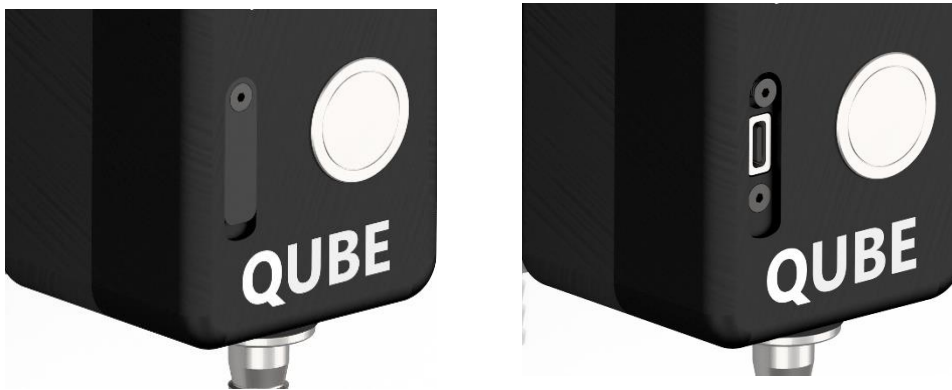

Figure 10: QUBE CTW module with USB-C inlet
- Plug in the USB plug end of the CTW CHARGING CABLE into the dedicated USB charging port socket on the QUBE CTW module as shown in Figure 10